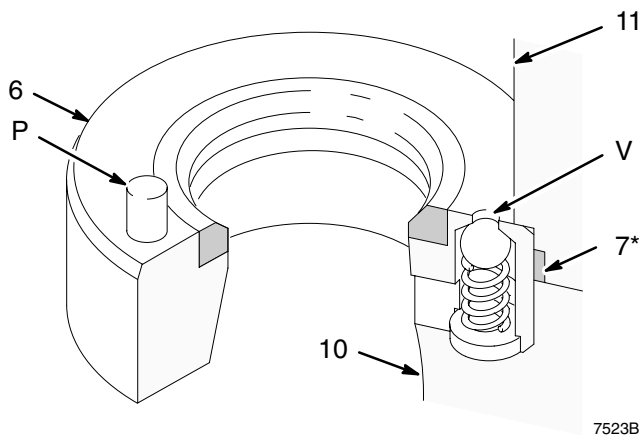

Fig. 14
4. Install the relief valve intake seat (6) in the left side of the lower housing (11), as viewed in Fig. 15 (the arrow on label 35 points to the correct location). The pin (P) on the seat must point up into the housing. The pin limits the positioning of the seat, ensuring that the vent hole (V) is not blocked by part of the housing. Refer to Fig. 14.
5. Install the intake seat without a relief valve (34) in the right side of the lower housing (11).
-  Relief valve intake seat must be installed on the left side of the housing (11), as shown. Orient the seat as shown in Fig. 14.
-  Intake seat without relief valve. **Do not install the relief valve seat (6) on this side of the housing (11).**
-  Chamfered side must face ball (5).